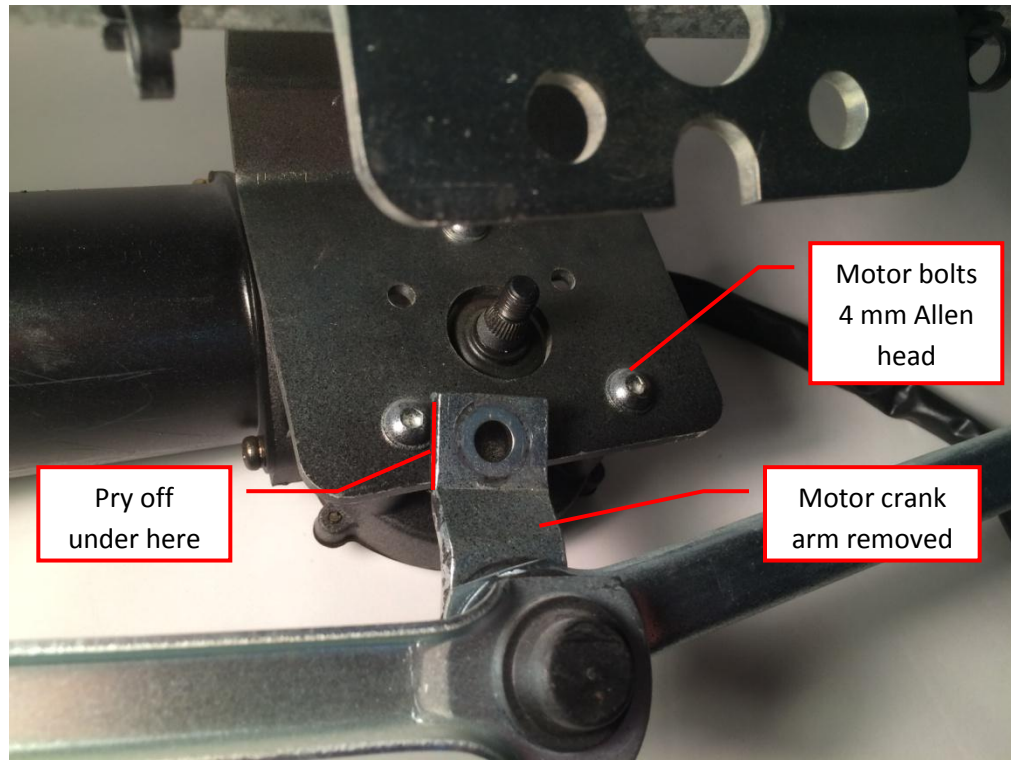

Fig. 2 Crank arm removed – 3 motor bolts can be removed
15. Pry the motor crank arm off the motor shaft using a large standard screw driver (fig. 2).
16. Remove the (3) button head screws holding the motor to the bracket with a 4mm Allen drive. Save the screws.
19. Position the new motor onto the wiper module motor bracket and install the (3) button head screws using the 4 mm Allen drive. Torque to 7 ft-lbs (fig. 2).